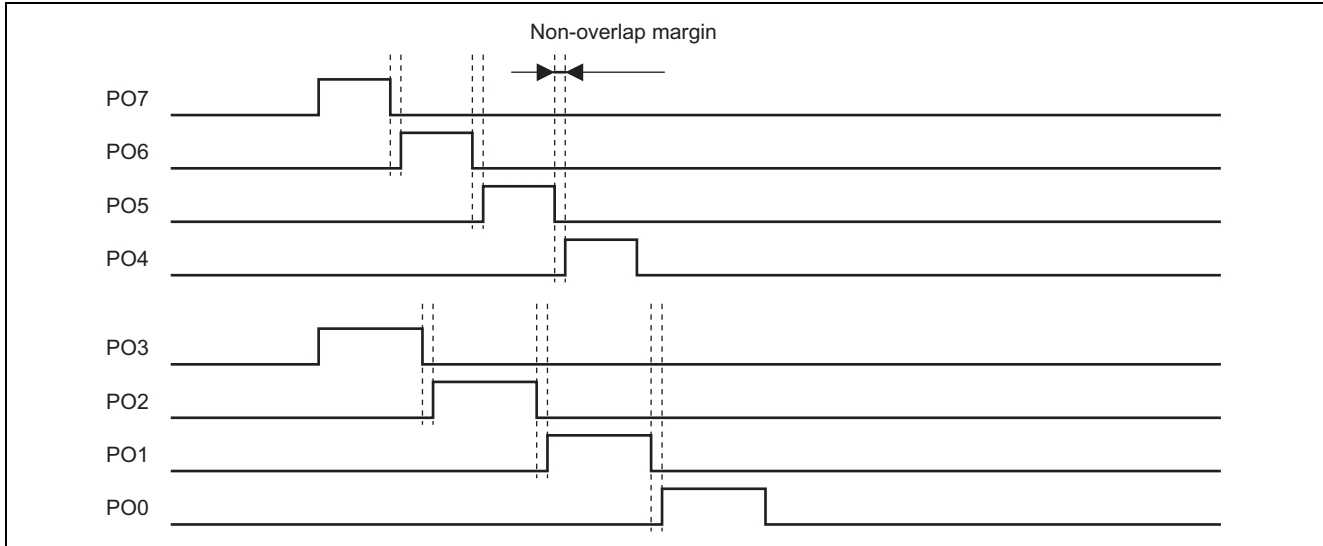

Figure 1 Example Output of Two Groups of 4-Bit Signals
- Asynchronous pulses are output as two groups of 4-bit signals by using the programmable pulse generator (PPG) outputs as shown in figure 1.